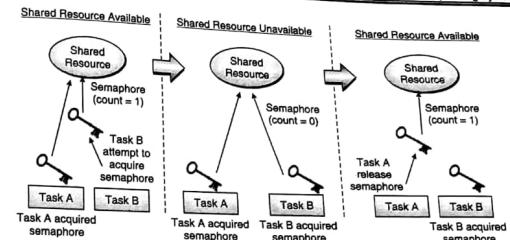

Fig. 13.5.3 : Counting semaphore
- Fig 13.5.3 shows the behaviour of the counting semaphore for a shared resource.
- As shown in the Fig. 13.5.3, there is a count maintained, which is two in this case and hence there are two keys available. Thus a maximum of two tasks can access the shared resource at any given time.